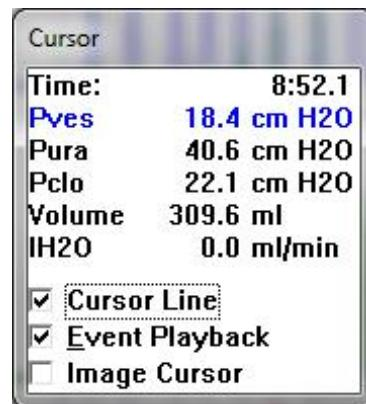

Figure 138: Cursor Window
-or- Press the F9 key on the keyboard. This will launch the Cursor window (Figure 138).